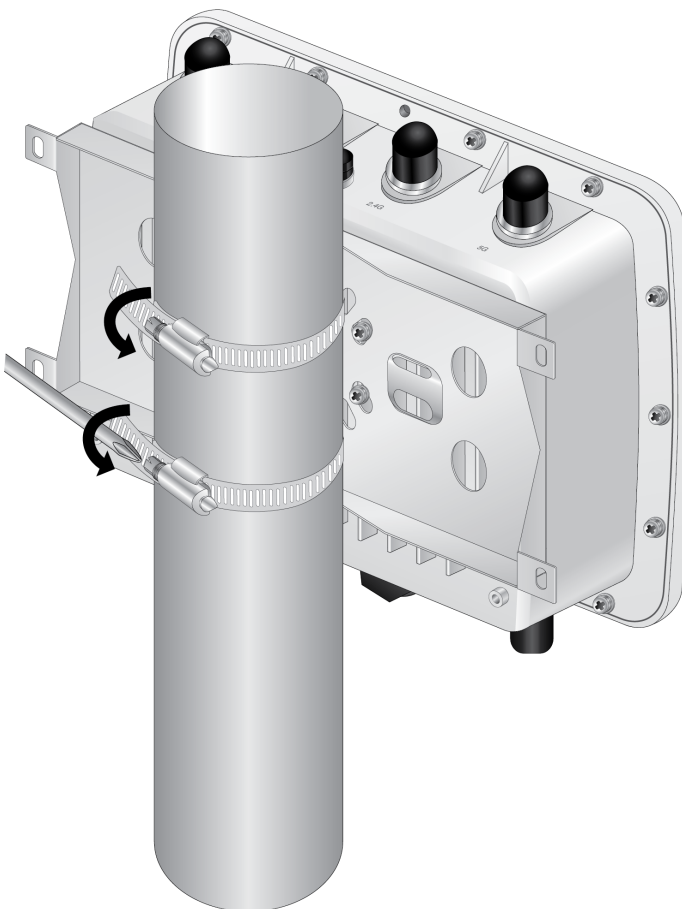

Figure 33. Tightening the Straps
6. Tighten the screws with a Phillips-head screwdriver to secure the access point to the pole. See Figure 33.